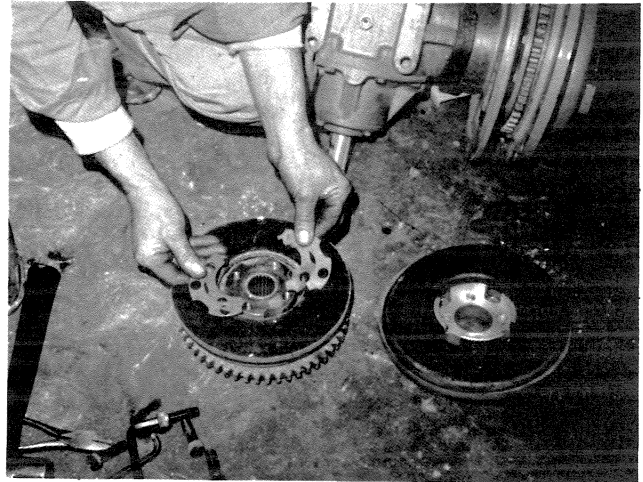

Figure 13. Clutch Adjustment Shims
- (13) Remove the four shims (Fig. 13) and lay aside for use in reassembly. THESE SHIMS ARE USED IN ADJUSTMENT OF THE CLUTCH.
- (29) Lay friction disc on backplate along with driving ring, which meshes with friction disc.
- (30) Being very careful to align the counterbored holes so that the return springs will seat properly, place the floating plate on hub and engage spline.
- (31) Position pressure plate on the floating plate so that the lugs seat in the counterbored holes in the floating plate.
- (32) Push air tube in the holding plate, making sure the air connection fits properly in the oblong hole in the holding plate. Attach holding plate and airtube to hub and backplate with the four allen head capscrews. Tighten capscrews and safety-wire.
- (33) Clearance between the friction disc and the floating plate can now be checked. If available, attach an airline to the clutch and check the travel of the floating plate when air is applied. The travel of the floating plate, or the gap between the friction disc and the floating plate with air released should be 1/16" to 1/8" when the friction disc is new. Shims (Fig. 13) may be removed to secure the correct adjustment.